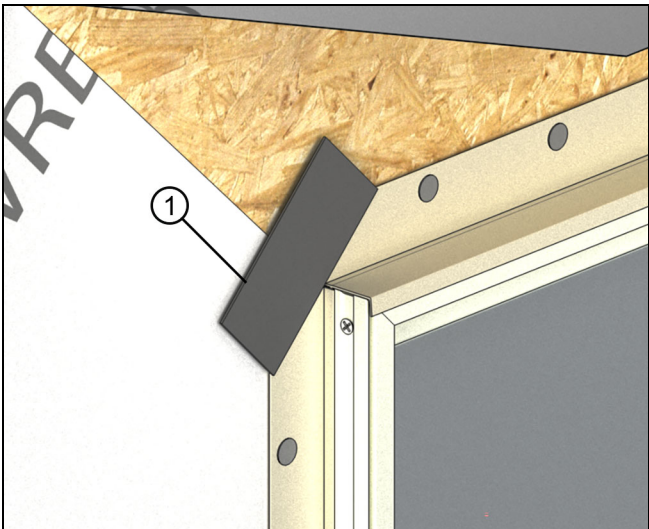

Figure 51
1. On units that use nailing fin, apply a 2" x 4" strip of flashing material at 45 degrees to the corner, bridging the gap between the nailing fin. Do this at all 4 corners. See Figure 51.